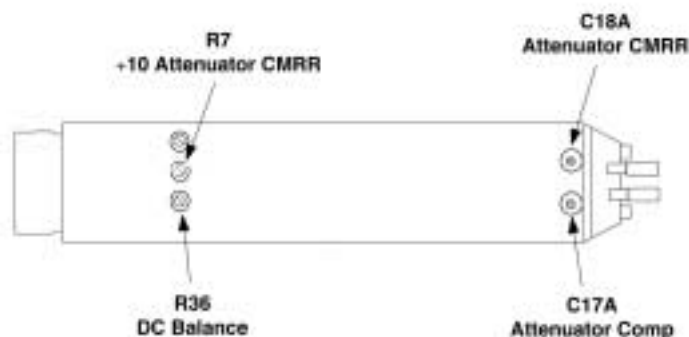

Figure 10. Probe Tip Adjustment Locations
7. Adjust **DC Bal** (R36) on the probe tip (Figure 10) to obtain a DMM reading of 0 V  $\pm$ 10 mV.
12. Adjust **+10 CMRR** (R7) for minimum amplitude. (See Figure 10 for location.)
8. Adjust **Attenuator Comp** (C17A) for a flattop waveform. See Figure 10 for adjustment location.